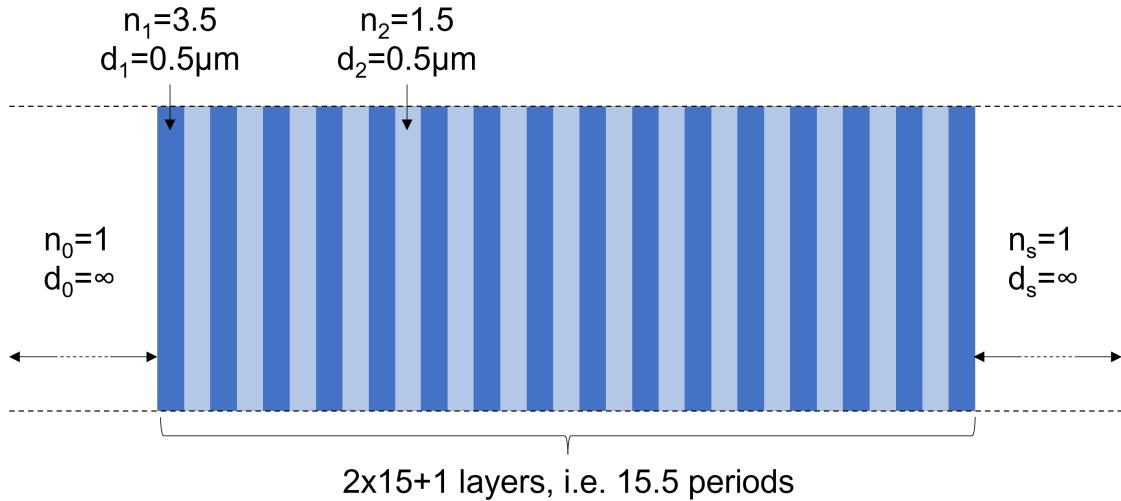

Figure 2.4: Geometry of the DBR example.
We will now consider a 1D photonic crystal, called a *Distributed Bragg Reflector (DBR)*, as illustrated in Figure 2.4.
- a) What is the expected wavelength of the fundamental bandgap for a DBR like the one in Figure 2.4?